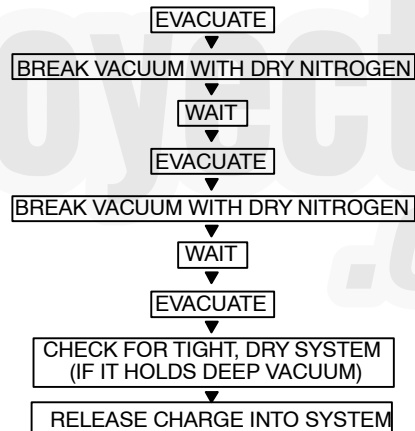

Fig. 17 — Triple Evacuation Method
The triple evacuation method should only be used when vacuum pump is only capable of pumping down to 28 in. of mercury vacuum and system does not contain any liquid water. Refer to Fig. 17 and proceed as follows:
5. Repeat this procedure as indicated in Fig. 17. System will then be free of any contaminants and water vapor.